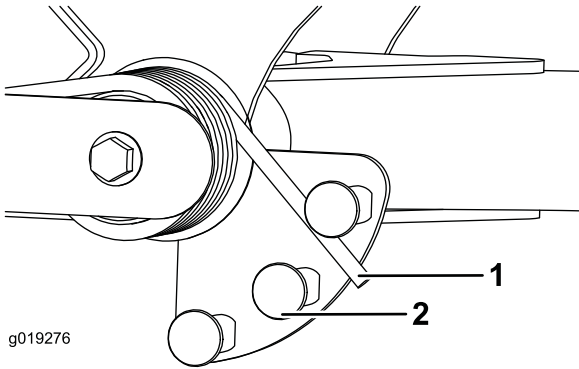

Figure 30
2. Insert a tube or similar object onto the long spring end and pivot it around the spring actuator to the desired position (Figure 30).